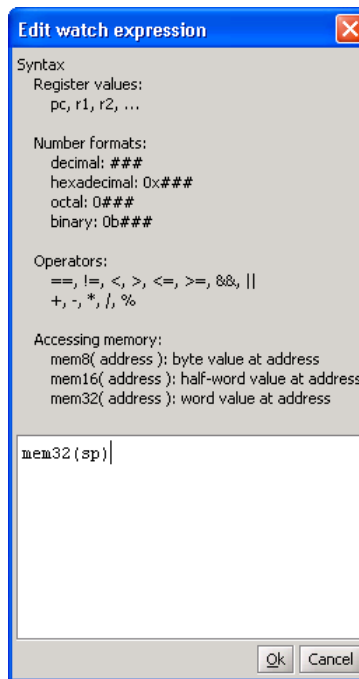

Figure 34. The Edit Watch Expression window.
3. The *Edit Watch Expression* window will appear, as shown in Figure 34. The desired watch expression can then be entered, using the syntax indicated in the window. In the figure, the expression `mem32(sp)` is entered, which will display the value of the data word at the current stack pointer address.